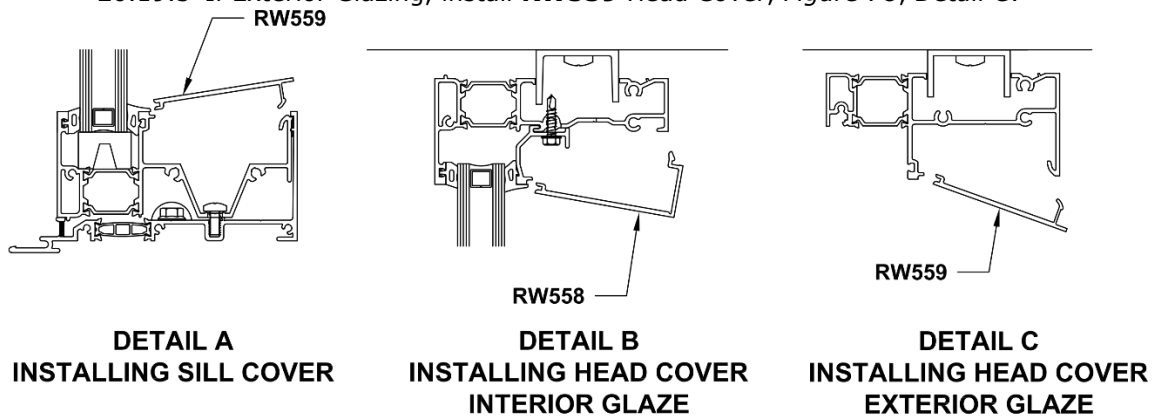

Figure 78: Cover Installation
- 19.20.4 If Interior Glazing, install **RW558** Head Cover, *Figure 78, Detail B*.
- 19.20.5 If Exterior Glazing, install **RW559** Head Cover, *Figure 78, Detail C*.
- 20.19.1 It is OPTIONAL to install the Sill Cover before glazing. To install the Sill Cover, snap **RW559** Sill Cover into place at Sill, *Figure 78, Detail A*.
- 20.19.3 Snap **RW559** Sill Cover into place at Sill, *Figure 78, Detail A*.
- 20.19.4 If Interior Glazing, install **RW558** Head Cover, *Figure 78, Detail B*.
- 20.19.5 If Exterior Glazing, install **RW559** Head Cover, *Figure 78, Detail C*.